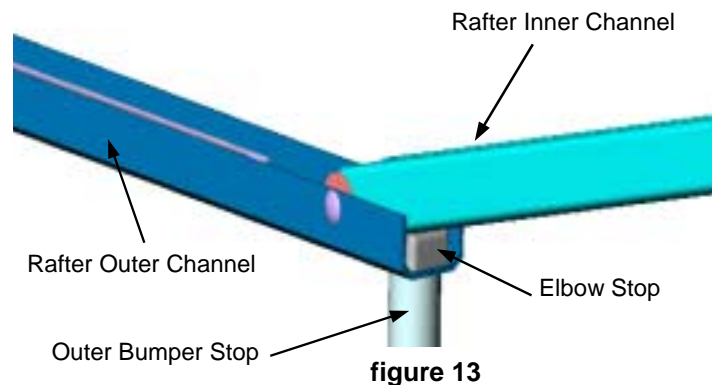
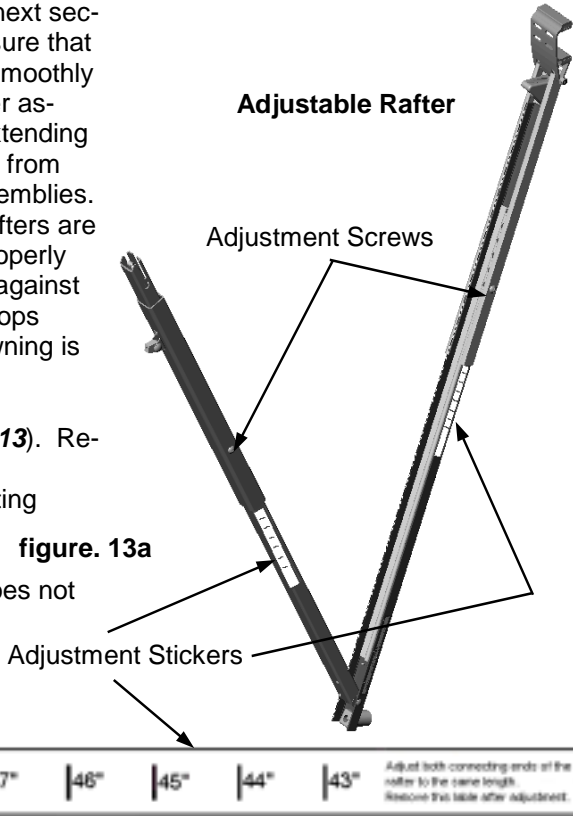

figure 13
figure. 13a
A. Place switch panel in the Manual Mode (see Operating Instructions.) and extend awning completely out. If awning will not extend fully adjust both rafters "longer" by removing the screws (see figure 13a) and increasing length of both ends of the rafters the same amount. If canopy extends but rafter does not lock out (see figure 13) then "shorten" the rafter so the "elbow stop" completely locks out against the rafter "inner channel".
D. Extend the awning until the rafters are at the maximum open position allowed by the Rafter Elbow Stop (see figure 13). The Gas Shocks on both the arm assemblies should be compressed 1/4" - 3/4" at this time. Jog the power switch slightly to retract and tighten the canopy fabric.
F. Cycle the awning in and out several times, (see the Operating Instructions in the next section), to be sure that it operates smoothly and the roller assembly is extending evenly away from the arm assemblies. Verify the rafters are unfolding properly and resting against the elbow stops when the awning is fully extended (see **figure 13**). Refer to the troubleshooting guide if rafter operation does not appear correct.